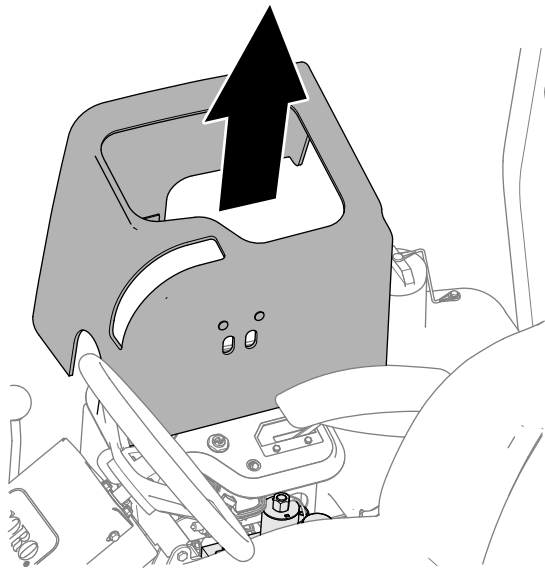

Figure 92
3. Lift the magnetically mounted console cover (Figure 92) to expose the mower manifold.